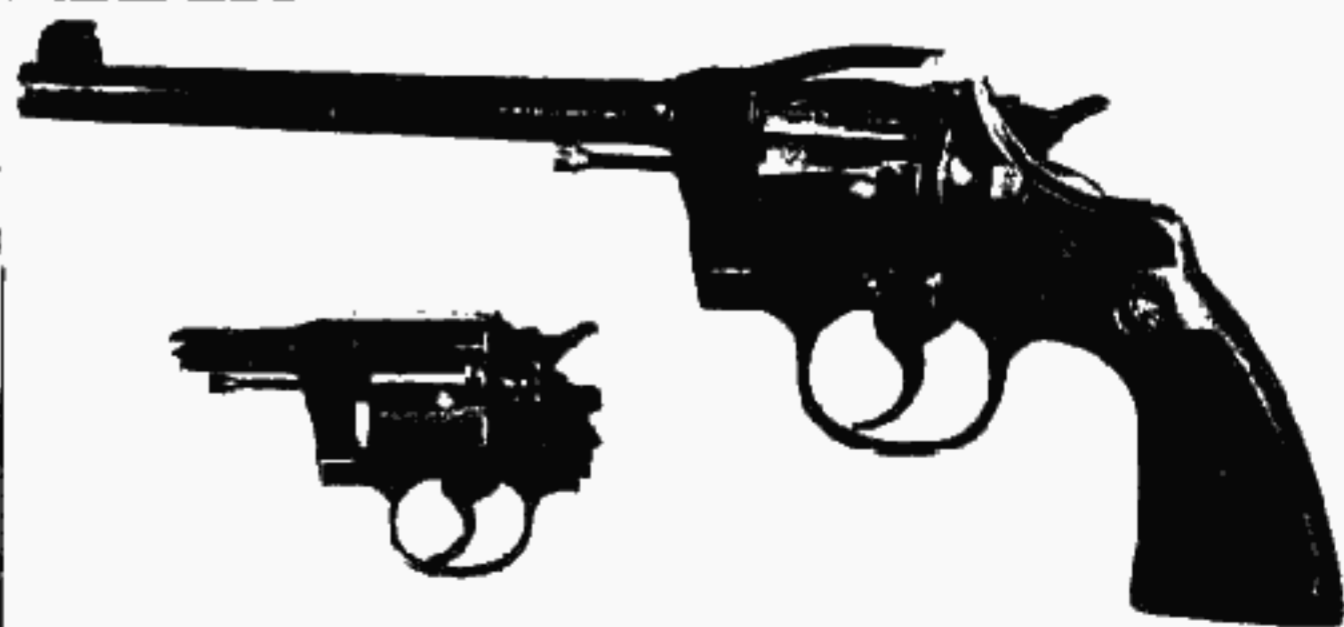

Fig. 204
**"BUSTED" REVOLVERS.** Accidents will happen, even in the best of families! Figure 204 shows a Colt Officer's Model that "let loose" in the face of some ten or more grains of Bulls-eye—the result of an adjustment screw having slipped on a powder measure. Happily the pieces of brass and cylinder which blew off missed the owner completely, the only damage noted, outside the gun itself, being to his peace of mind and his undies!
The insert in Figure 204 shows the gun as it looks today, after the aggressive "Native Son" finished with it. The top strap of frame was straightened out, and the break, which occurred in the rear sight dovetail, welded, then a new dovetail cut for the sight. A new cylinder fitted perfectly, as the frame was bent into line again. The gun today seems as good as ever, having been shot considerably with full loads with no sign of weakening or giving way. I may remark that I have never seen a finer job of welding than was done on this gun. The weld is absolutely invisible, and appears one piece of metal, although Mr. Titherington merely heat blued the strap,